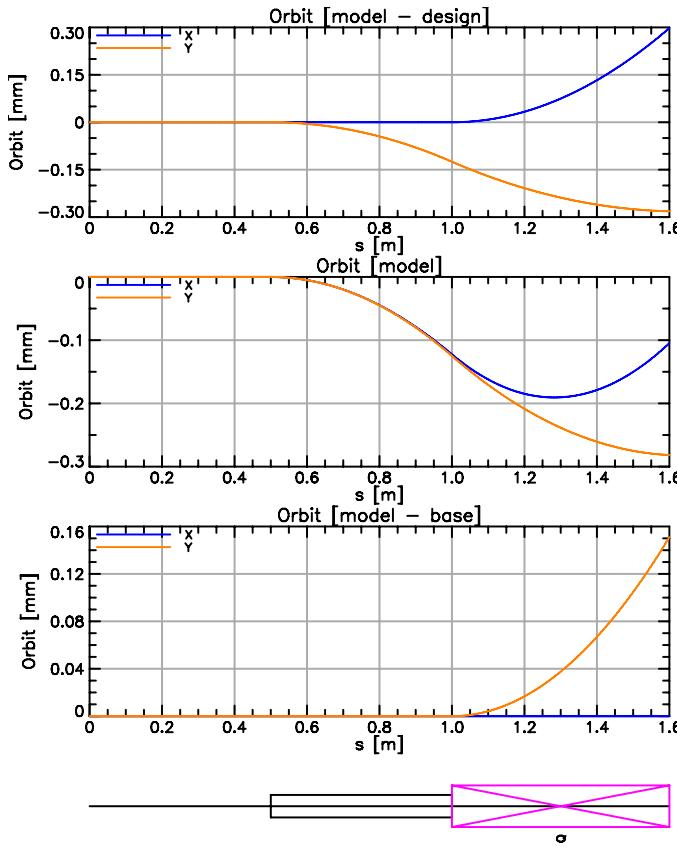

Figure 27: The **base** lattice is used to view changes when the reference lattice configuration does not correspond to the **design** lattice.
The **set lattice** command sets the **base** lattice equal to the **model** lattice. The third command varies the **model** lattice. The result is shown in Figure 27. The bottom plot of the orbit difference between **model** and **base** is not the same as the orbit difference between **model** and **design**.
- Orbit plots:** Modify the middle graph in Fig. 27 so that the vertical orbit curve becomes the horizontal orbit of the **design** lattice.